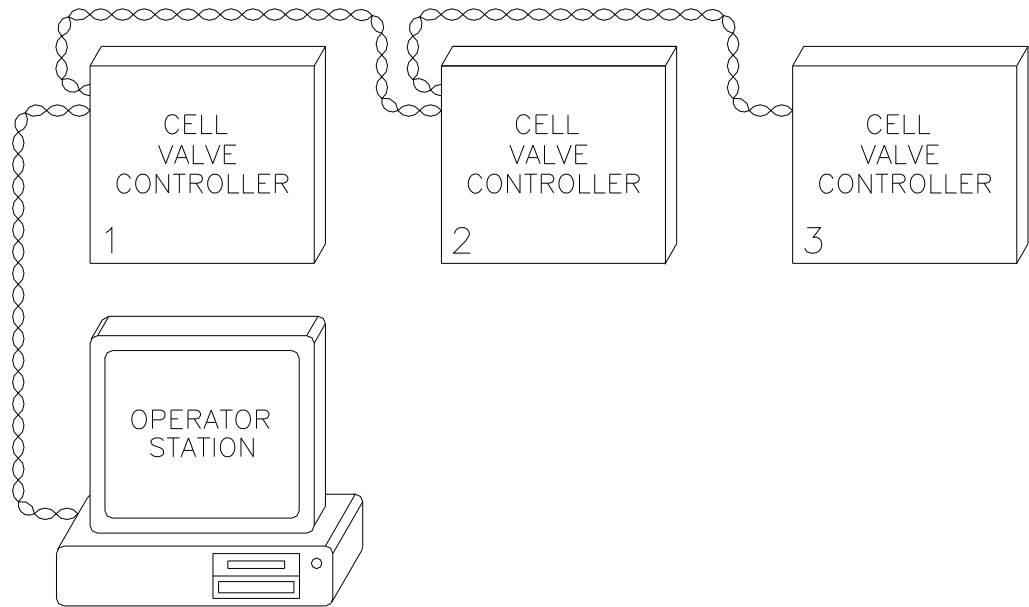

Figure 4 - WMS II Network Mode
*Figure 4* illustrates several Cell Valve Controllers in network mode. Twisted pair cabling is used to connect the Cell Valve Controllers to the Operator Station. The Operator Station is used to configure and monitor the Cell Valve Controllers connected to it using the CAN bus twisted pair network. Each Cell Valve Controller connected to the Operator Station must be assigned a unique ID number using the DIP switches on the Cell Valve Controller board (See *Cell Valve Controller Components* earlier). The configuration of each CVC is determined by the plumbing fixtures connected to it and is identical in either networked or stand-alone mode.